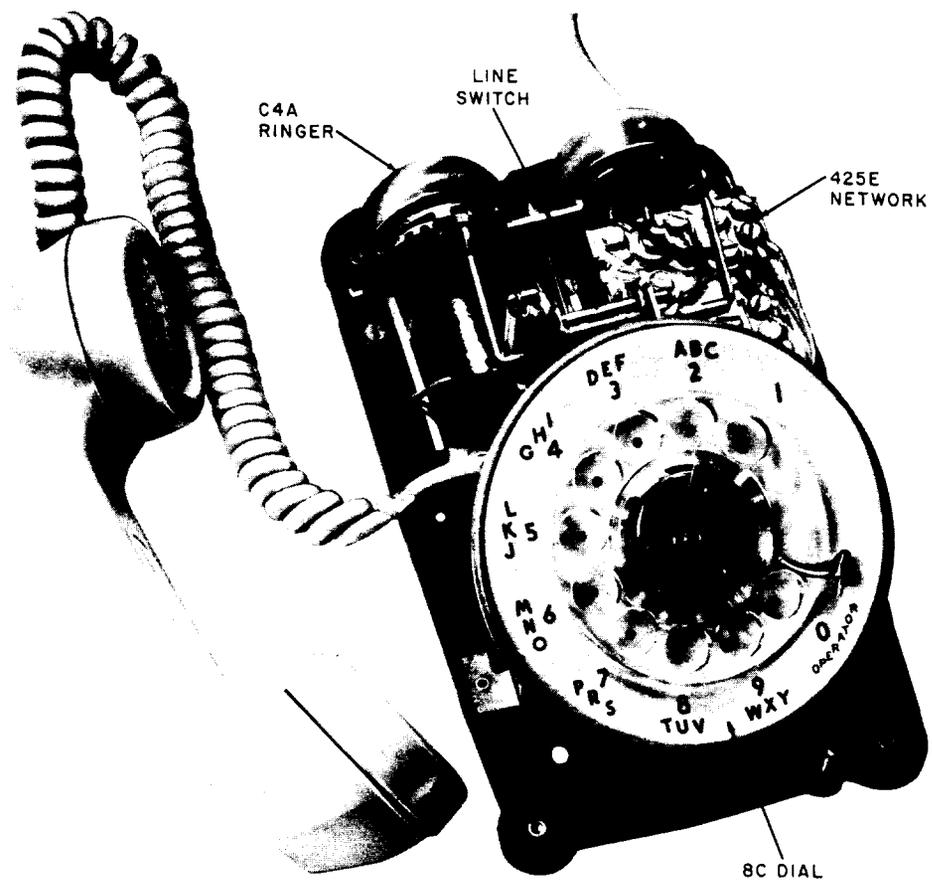

Fig. 4 — 500DR Telephone Set — Housing Removed
**2.17** The 500DR telephone set (Fig. 4) consists of a line switch, C4A ringer, 425E network, 7- or 9-type dial, G3AR handset, and H4CJ handset cord mounted to a metal base and enclosed in a plastic housing. A four conductor mounting cord is also included.